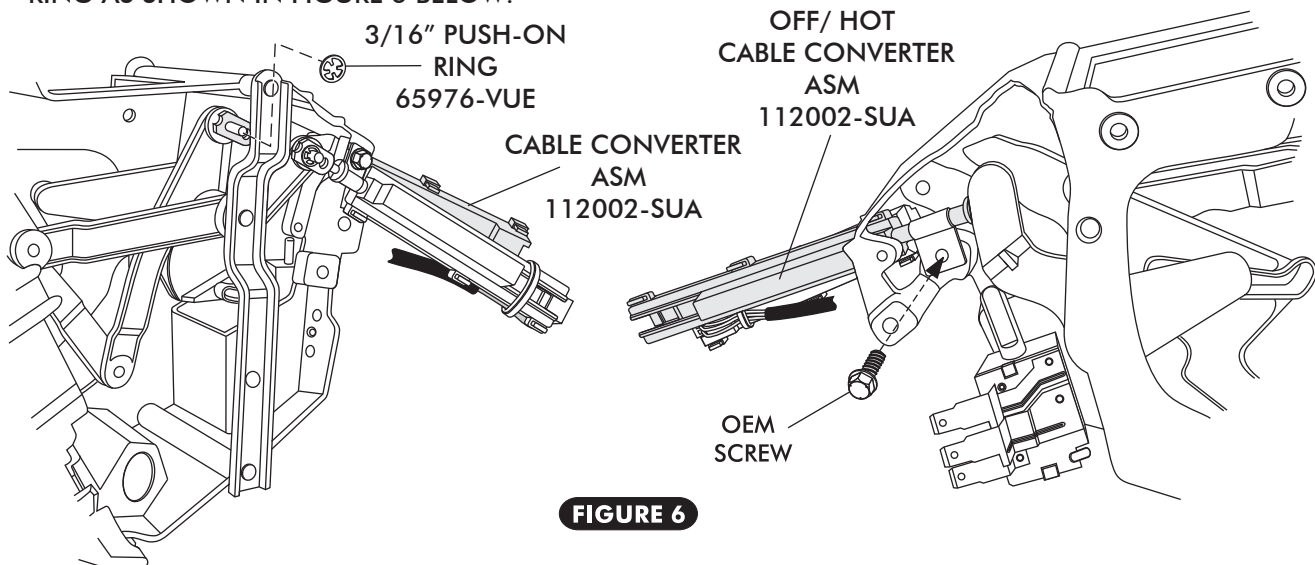

FIGURE 6
- INSTALL CABLE CONVERTER ASM ON THE OFF/ HOT LEVER. SEE FIGURE 6 BELOW.
- INSTALL CABLE CONVERTER LEVER PUSH ROD ONTO OEM CABLE MOUNTING STUD ON LEVER. SEE FIGURE 6 BELOW.
- SECURE THE CABLE CONVERTER ASM TO THE CONTROL PANEL USING THE OEM SCREW IN THE OEM CABLE CLAMP MOUNTING LOCATION. SEE FIGURE 6 BELOW.
- SINCE THE CABLE CONVERTER ASSEMBLY CAN SLIDE BACK AND FORTH IN CLAMP BEFORE SCREW IS TIGHTENED, POSITION SLIDE POT ASSEMBLY SUCH THAT THE FLAT PART OF THE ROD IS AS CLOSE TO FLUSH AS POSSIBLE WITH THE END OF HOUSING AT THE LEVER'S INNER MOST POSITION. SEE FIGURE 6 BELOW.
- SECURE CABLE CONVERTER PUSH ROD ONTO OEM CABLE MOUNTING STUD USING 3/16" PUSH-ON RING AS SHOWN IN FIGURE 6 BELOW.